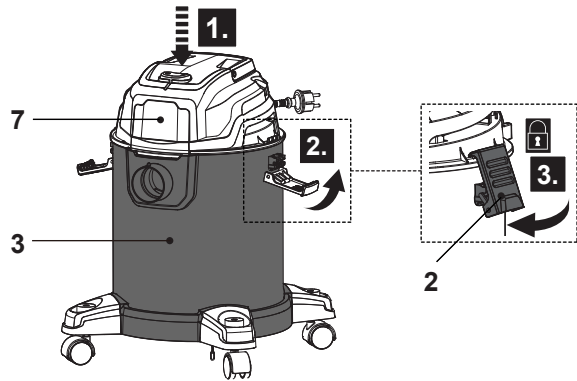

Fig. 9
- > Place the motor unit (7) with foam sleeve (17) onto the tank (3) and secure it with the plastic clasps (2) (Fig. 9). Ensure the motor unit sits properly on the tank and the connection is properly sealed.